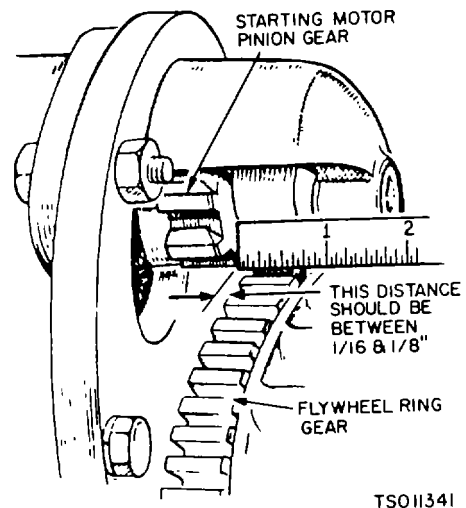

Figure 6-8. Pinion Clearances
(2) Apply 20 weight oil to armature shaft and splines. Use grease sparingly on intermediate bearing assembly and spacing washers at end of the shaft.
h. Installation. Refer to paragraph 4-35c and install starter. Check pinion clearance (fig. 6-8) between starting motor pinion gear and flywheel ring gear.